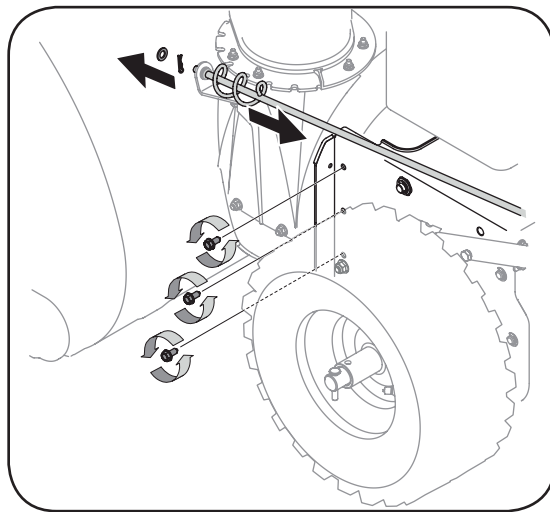

Figure 28
7. Remove the hex screws which attach the auger housing assembly to the frame assembly using a 1/2" wrench. Refer to Figure 28.